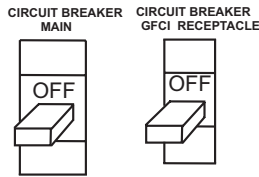

Figure 37. GFCI and Main Circuit Breaker (OFF)
1. For 1999 Version: Place both the **MAIN** and **GFCI** circuit breakers to the "OFF position"(Figure 37).